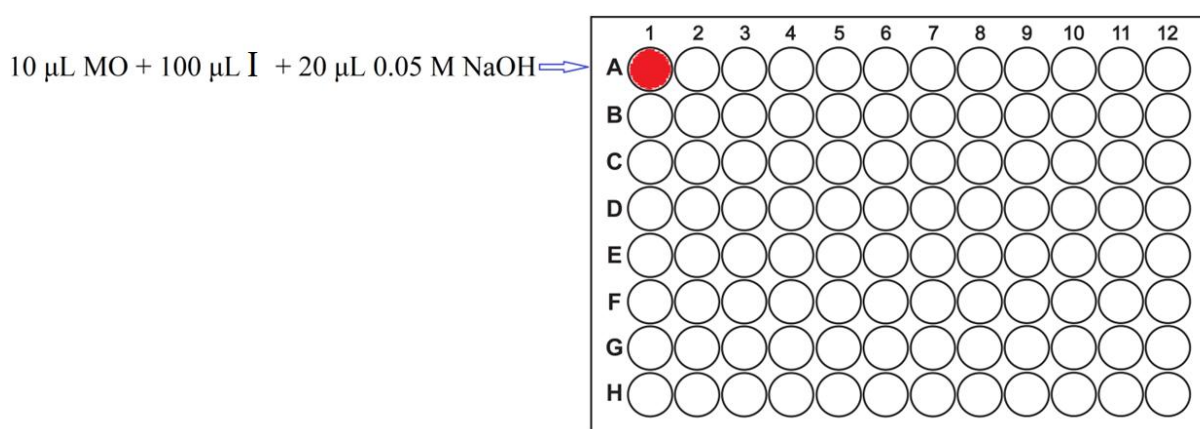

Figure 1. Step 1 – 100 μL of solution **I** is basified with 20 μL of NaOH.
- **See Figures 1–6** on the next pages for visual guidance on performing the experiment.
As can be seen from **Table 1**, some solutions will need to be added multiple times. Continuing to “titrate” according to the order in **Table 1** and **Figures 1–6**, you should reach the well H12 and complete the “titration” with solution **II**.